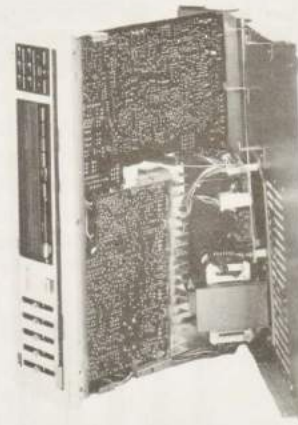

Fig. 6
- (1) Remove screws ① – ⑤ on the P.C. board.
- (2) Remove screws ⑥ – ⑮ on the chassis base.
- (3) Remove the chassis base in this manner shown in Fig. 6.